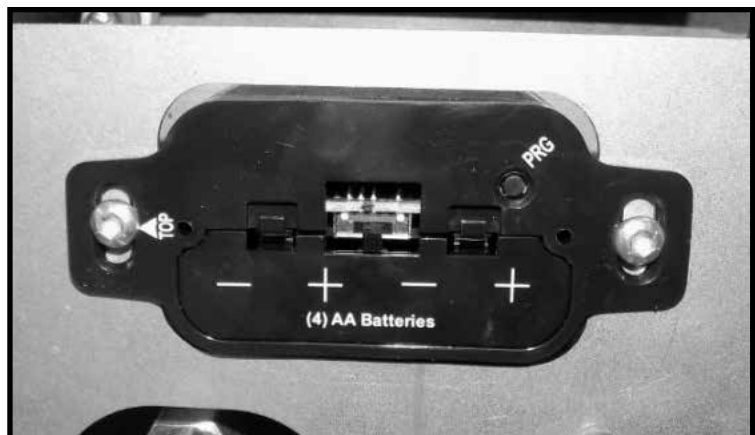

Figure 4: On-off switch.
1. Install 4 AA batteries into the battery holder (Figure 4) located on the rear side behind the surround below the firebox. Make sure that the selection switch is on the "Remote" setting.
4. Locate the button marked "PRG" (Program) on the ON/OFF switch (Figure 4) and press the program button once. The module will beep 3 times indicating that it is ready to synchronize with a remote transmitter.